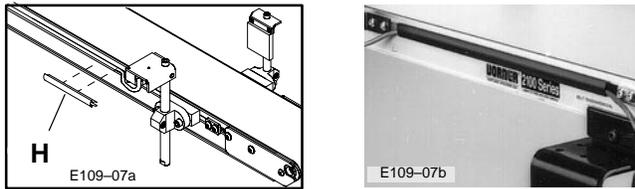

Figure 7: Cover Strip Mounting Detail
- c. To contain a long run of wiring cable in the conveyor T-slot channel, use several short lengths of T-slot Cover Strips (F) (Figure 7). Or, to completely contain a long run of cable, purchase T-slot Cover Strip (645656P) at length required.